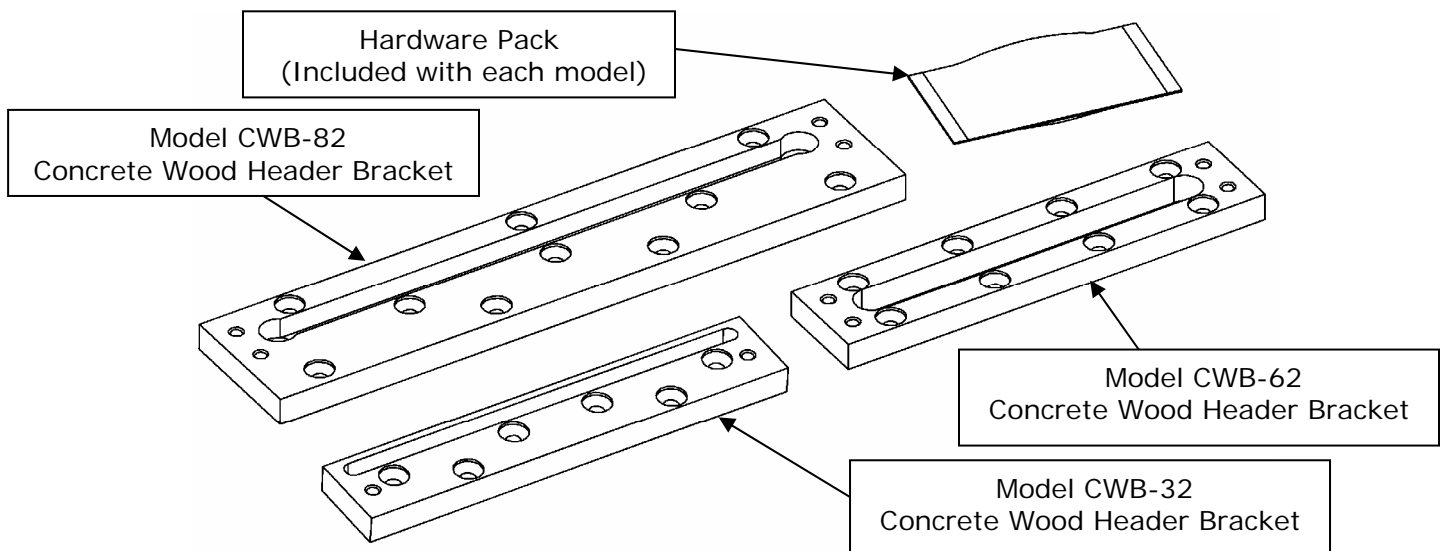

Figure 1
All three (3) CWB, concrete wood header bracket, models are available separately in both clear anodized or black anodized finish. The illustration below in **Figure 1** indicates the three concrete wood header bracket model types available. Along with these instructions, each model type contains one (1) model type bracket and the individually related model type hardware pack. Upon unpacking these products, an inventory should be made to ensure that the required bracket and hardware have been included.